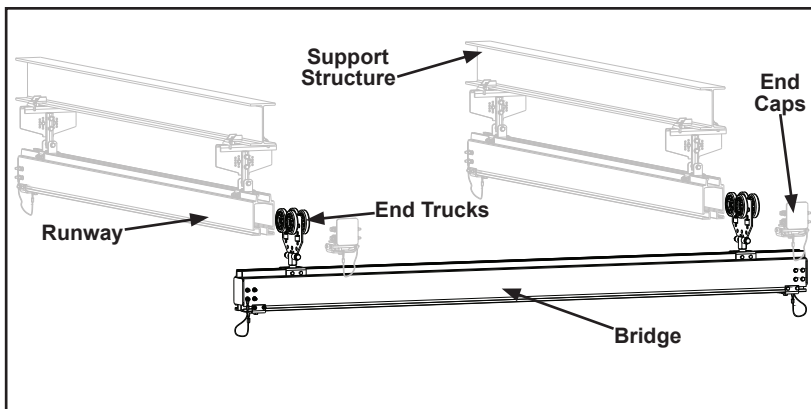

Figure 3-2
- Step 3. Slide end trucks into bracket channel on bridge rail per instructions. See Figure 3-2. Refer to this manual section "End Trucks" page 3-24.